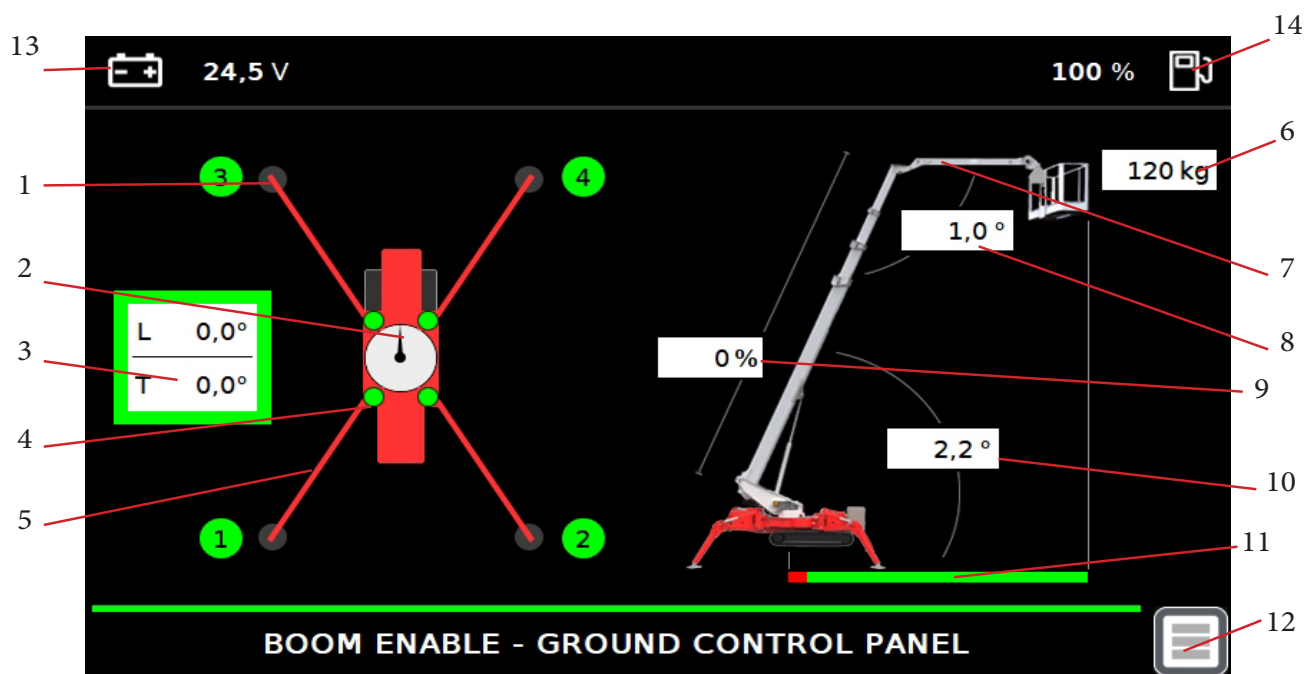
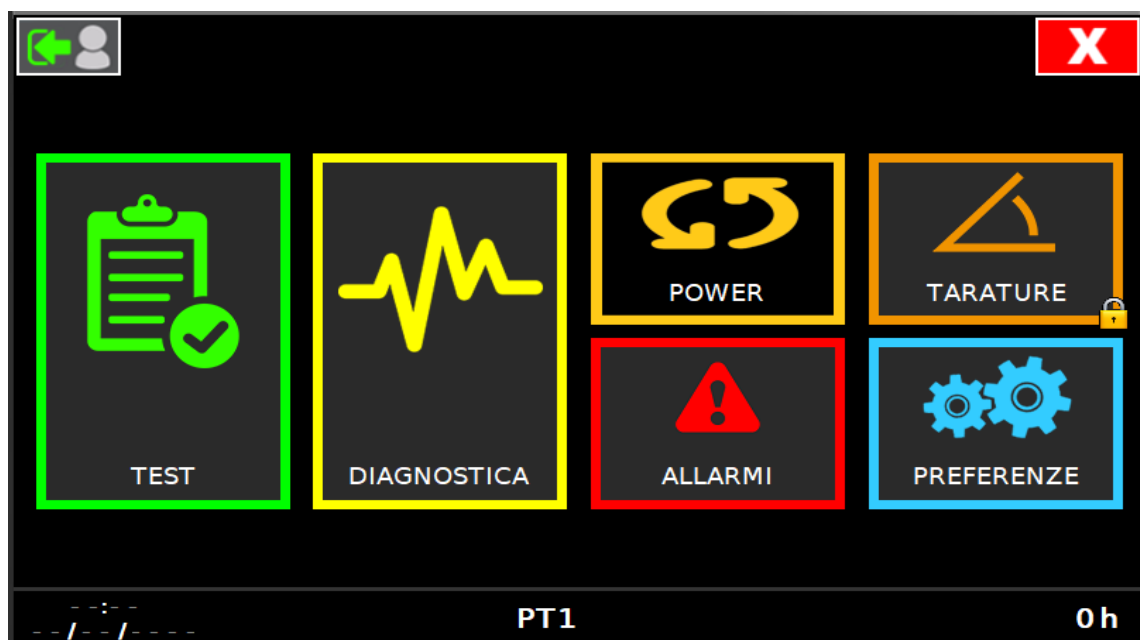

Fig 3.17
fig 3.18
If the platform is working with the boom, the display shows the screen of Fig. 3.17.
The botton in the lower right corner pos. 12 Fig. 3.17 opens the main index of the system (Fig. 3.18) where you will find six different areas: